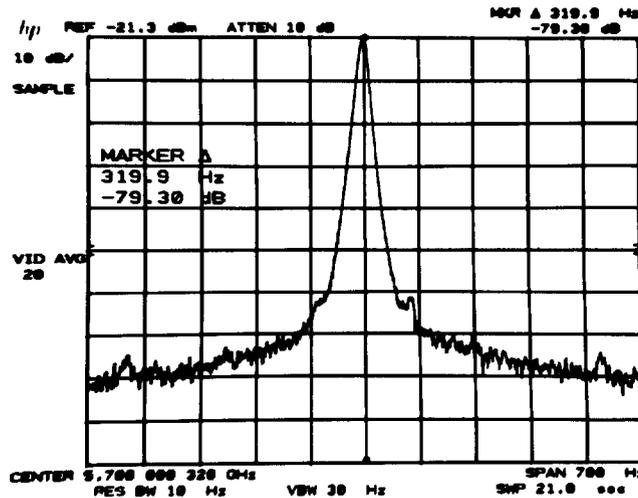

FIGURE 23. NOISE SIDEBANDS MEASUREMENT
9. Press MARKER **PEAK SEARCH**, **Δ** and key in 320 Hz. Record the MARKER Δ amplitude: _____ dBc. See Figure 23.